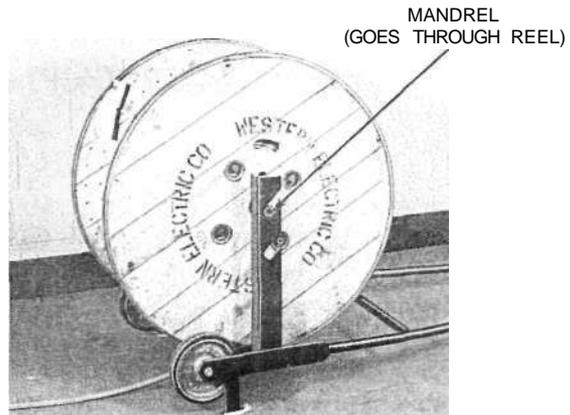

Fig. 3—Unreeled Position
- (g) To dispense cable from the reel the truck handles are placed on the floor (Fig. 3).